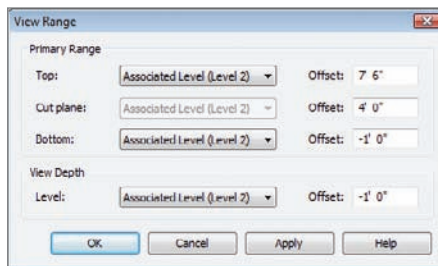

FIGURE 8.33 Setting the view range so you can see $1'-0''$ below the level
6. For View Depth, set Level Offset to $-1'-0''$ (see Figure 8.33).